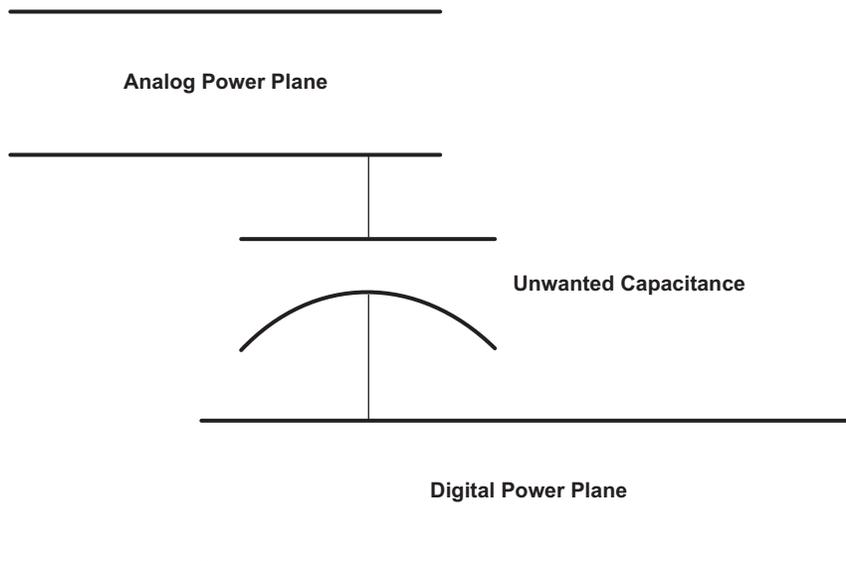

图 8-37. Do Not Overlap Planes
- Do not overlap planes that do not reference each other. For example, do not overlap a digital power plane with an analog power plane as this produces a capacitance between the overlapping areas that could pass RF emissions from one plane to the other, as shown in 图 8-37.